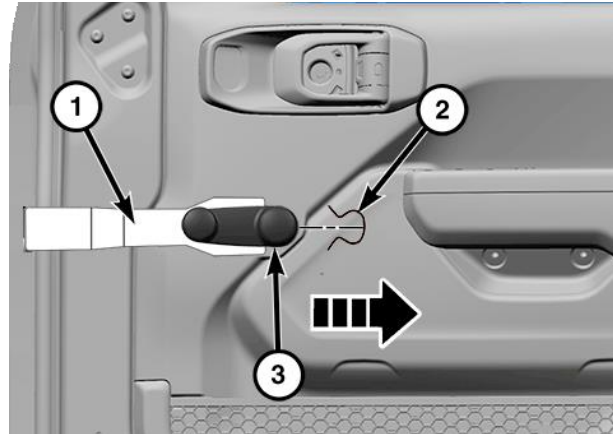

Figure 7 – Window Regulator Handle
11. If equipped with a manual window regulator, using a standard window handle tool (1), release the handle clip (2) and remove the handle (3) from the window lift mechanism (Figure 7).